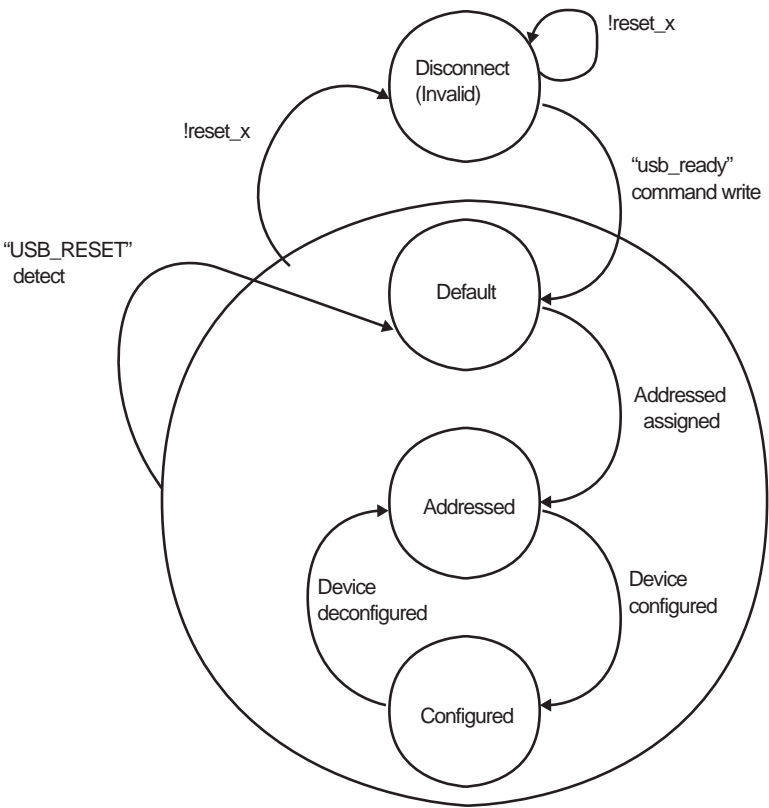

Figure 17-21 Device state diagram
- Figure 17-21 shows the "Device State Diagram".